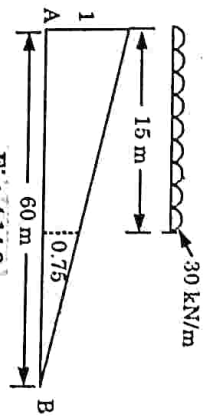

Fig. 4.14.3.
1. For maximum positive shear force the load should be placed as shown in Fig. 4.14.3.